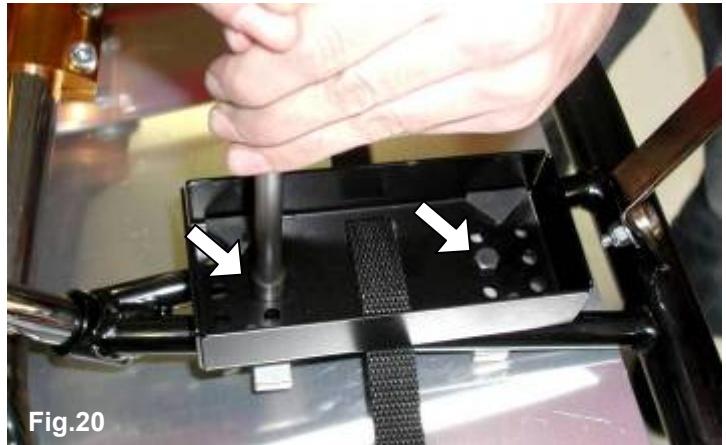

Fig.20
2.9.2 PLACE THE BATTERY SUPPORT BOX IN THE FRONT OF THE CHASSIS (UNDER THE FRONT PANEL FAIRING) AND FIX IT WITH THE CLAMPS TO THE LOWER STEERING COLUMN SUPPORT TUBES (M6x25 SCREWS - SEE FIG.20).